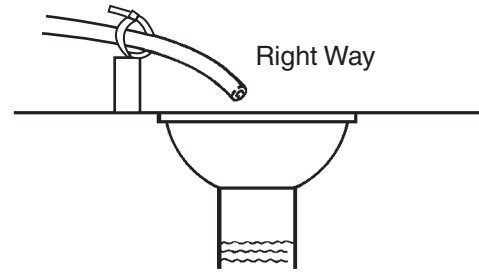

Figure 6 Drain Line Connection
**⚠ WARNING:** Never insert drain line directly into a drain, sewer line, or trap (Figure 6 Drain Line Connection). Always allow an air gap between the drain line and the wastewater to prevent the possibility of sewage being back-siphoned into the filter.